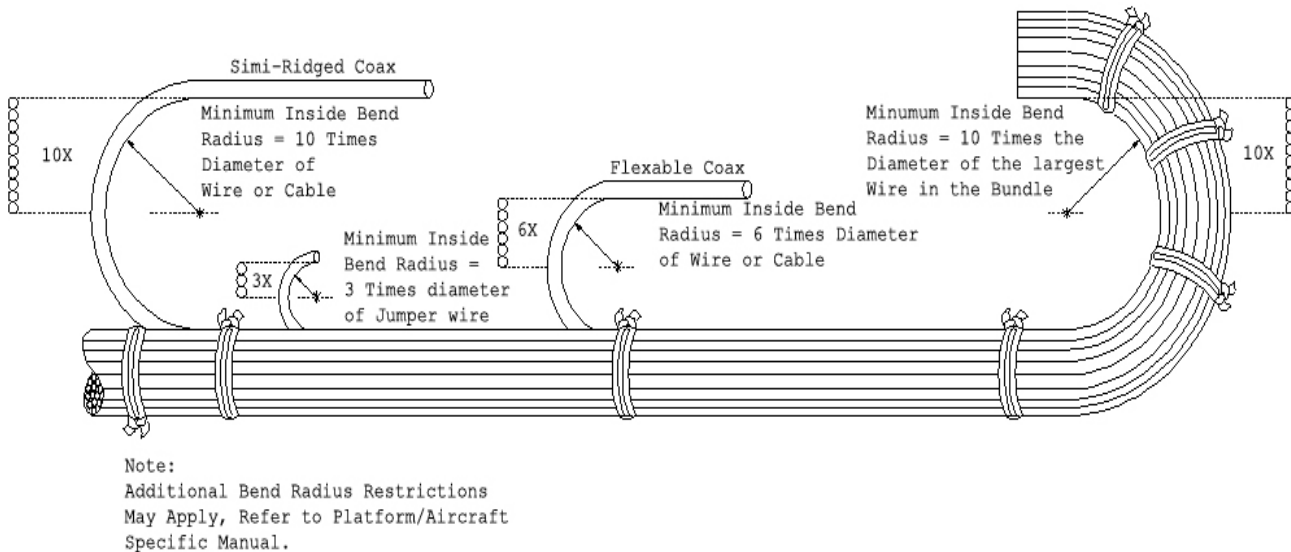

Figure 1. Bend Radius
12. **BEND RADIUS.** The maximum amount a cable can be bent without causing damage to the conductor or insulation is referred to as minimum bend radius (Figure 1). Bending the wire in excess of its allowable amount (minimum bend radius) will result in the outer insulation to stretch or break, and the inner insulation to compress and wrinkle. For coaxial cables, the insulating dielectric within the cable may be damaged and the signal degraded, or lost. Proper routing and installation is pivotal to wiring system integrity and operation. Refer to WP 010 00, 004 00 and 006 00 for additional information.